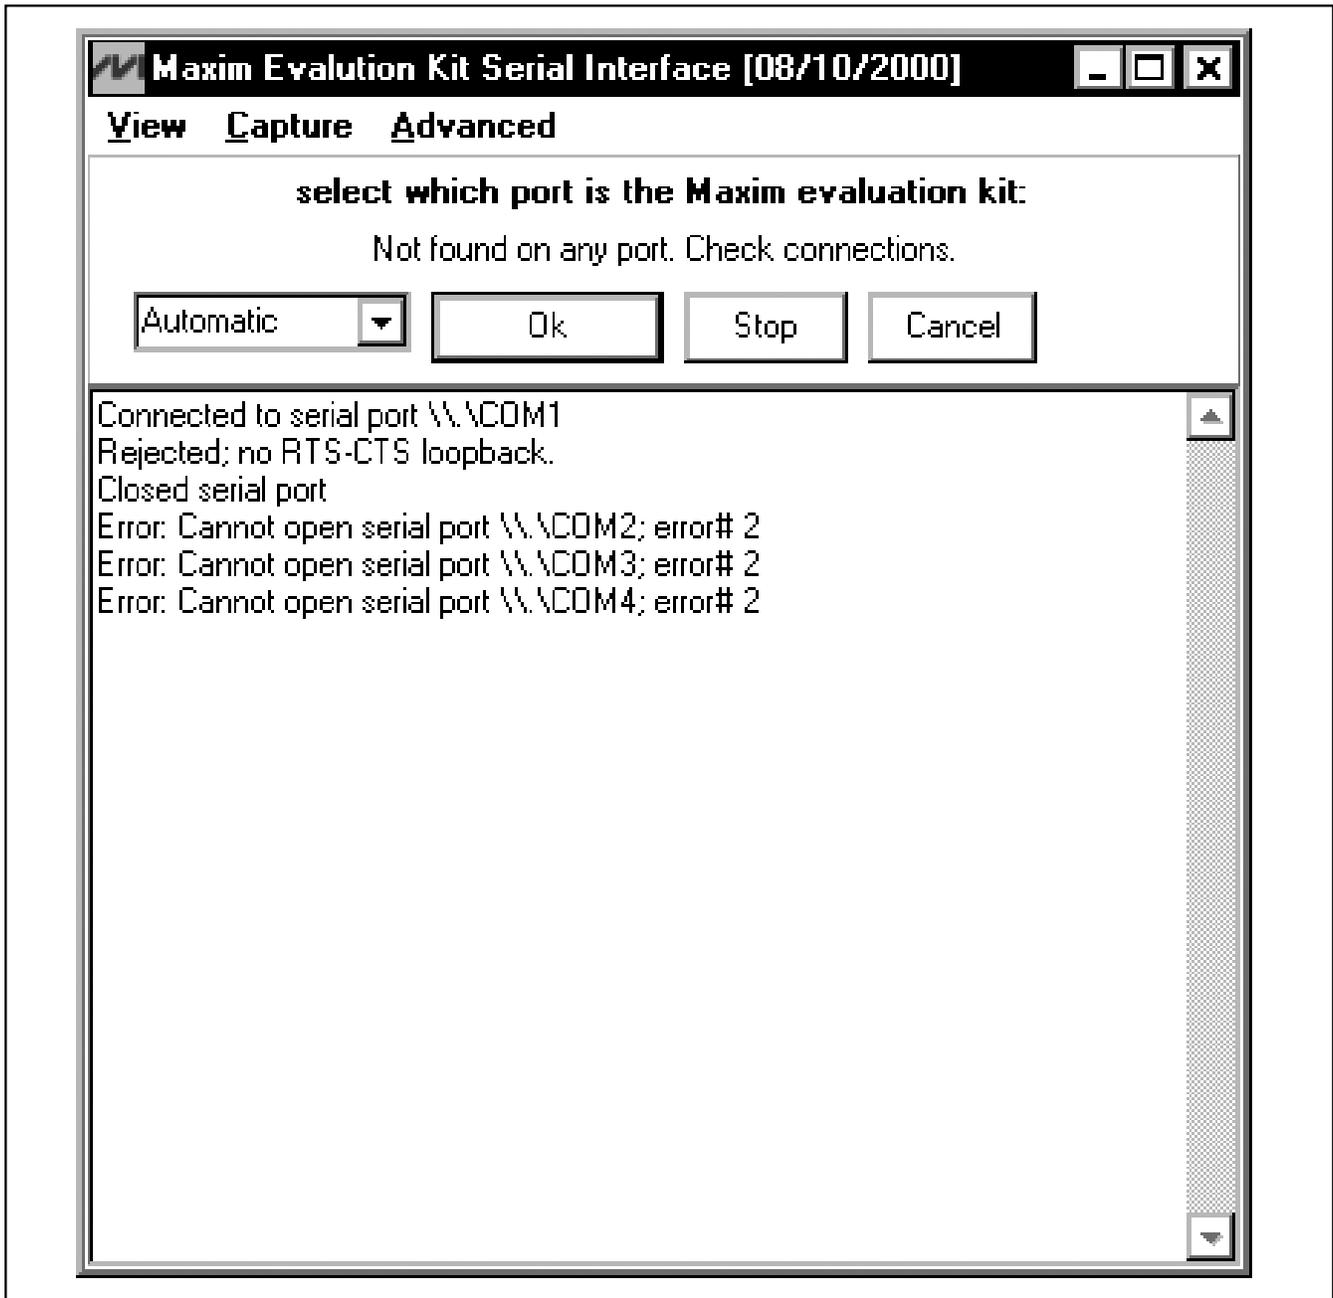

Figure 5. 68HC16MOD-16WIDE Not-Found Error Message
**Problem 1:** 68HC16MOD-16WIDE not found (see Figure 5).